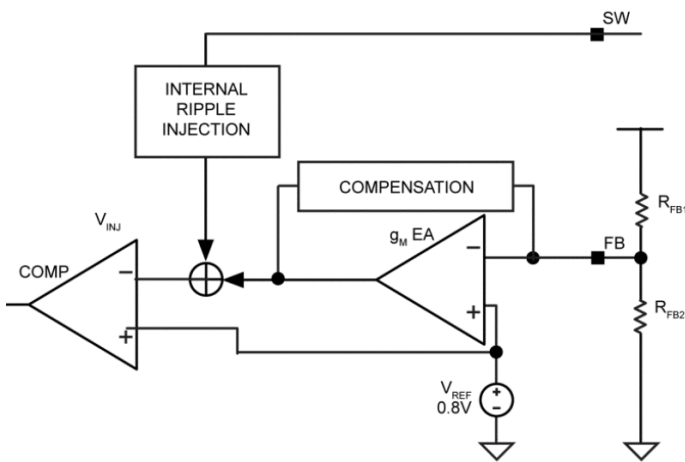

Figure 1. Output Voltage Sense via FB Pin
As shown in Figure 1 (in association with Equation 1), the output voltage is sensed by the MIC45205 feedback pin (FB) via the voltage divider  $R_{FB1}$  and  $R_{FB2}$  and compared to a 0.8V reference voltage ( $V_{REF}$ ) at the error comparator through a low-gain transconductance ( $g_m$ ) amplifier. If the feedback voltage decreases, and the amplifier output falls below 0.8V, then the error comparator will trigger the control logic and generate an ON-time period. The ON-time period length is predetermined by the "Fixed  $t_{ON}$  Estimator" circuitry: